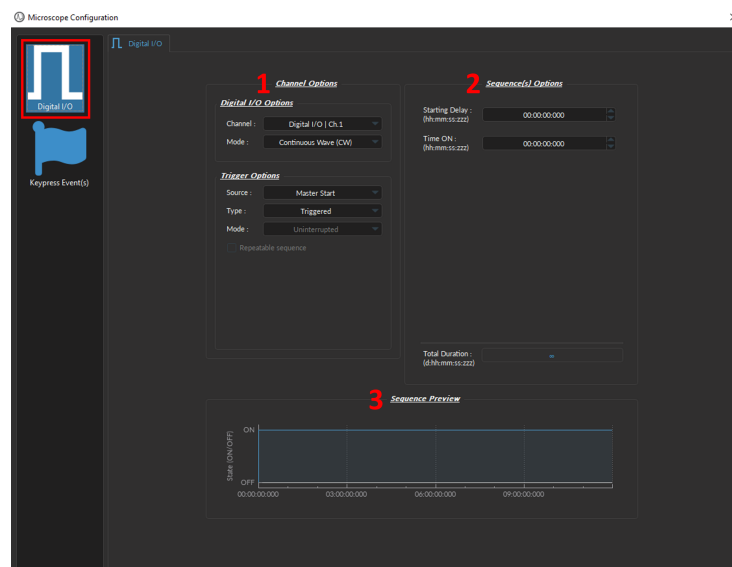

Figure 7.17: *Channel(s) configuration window, Digital I/O*
The *Channel(s) Configuration* window for the **Digital I/O** Channel is divided into three sections (Fig. 7.17): (1) the **Channel Options** (Section 7.4.1.1), (2) the **Sequence Options** & (3) **Preview** (both treated in Section 7.4.1.2).